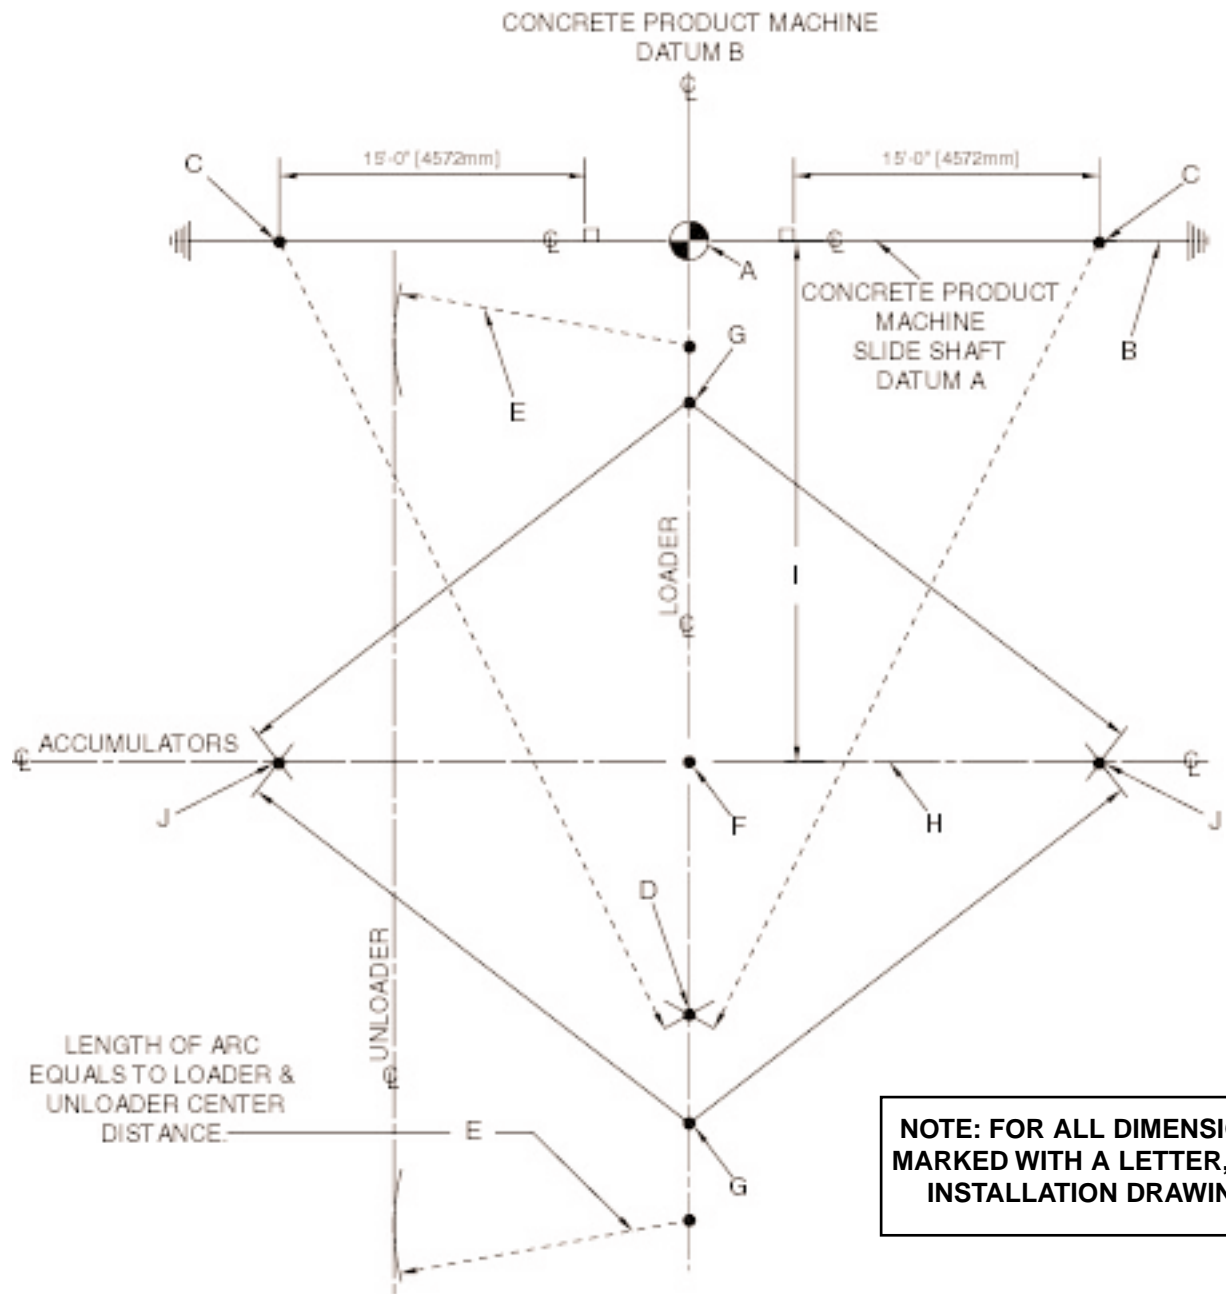

Figure 2.1 LOCATION OF EQUIPMENT BY CENTER LINES.
The plant layout should be prepared according to specifications presented in figure 2.1, 2.2 and 2.3.
1. Locate DATUM A and DATUM B reference centerlines of the BESSER-MATIC (see figure 2.1).
2. Locate centerlines of each piece of equipment. (figures 2.1 and 2.2).